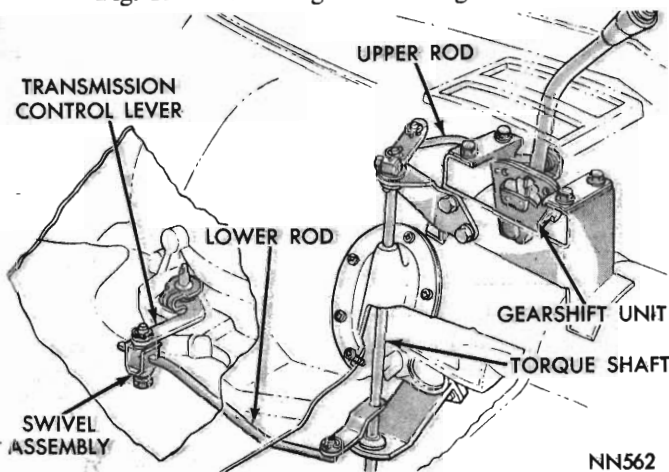

Fig. 20 - Console gearshift linkage
(1) Place gearshift selector lever in PARK position and loosen the gearshift linkage control rod swivel clamp screw a few turns (refer Fig. 20).
(4) Disconnect upper rod from gearshift unit (Fig. 20). Remove four gearshift to floor bracket bolts and remove unit.
(1) Install gearshift unit in its bracket, install and tighten four retaining bolts securely (Fig. 20). Attach upper rod to the unit.
(2) Lower console down over shift lever, insert dial lamp in its housing, and connect all electrical connections.
(3) Position console over floor brackets and install retaining screws and bolts. Install upper finish plate.
(4) Apply a small quantity of zinc base lubricant to button stem. With lever in NEUTRAL position, insert knob, spring and handle assembly on the cable end until serrated surface on the knob is
(1) With gearshift selector lever in PARK position, loosen lower rod swivel clamp screw a few turns (Fig. 20).
(1) With gearshift selector lever in PARK position, loosen bolt in lower rod adjusting lever (Fig. 20).